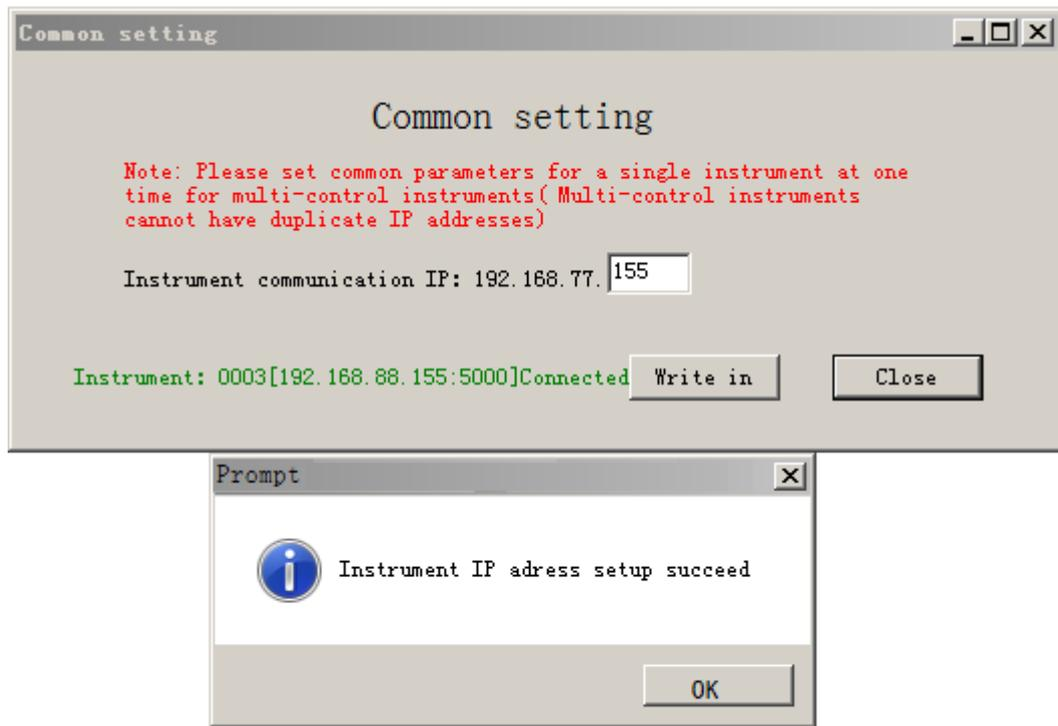

Fig3-3 Communication parameter settings
2. Click “Start” on the taskbar →“Programs”→ “Sundry” →“SDAC Calorimeter” then choose the “IP address setup tools” to enter the window of common setting as shown as fig3-3.